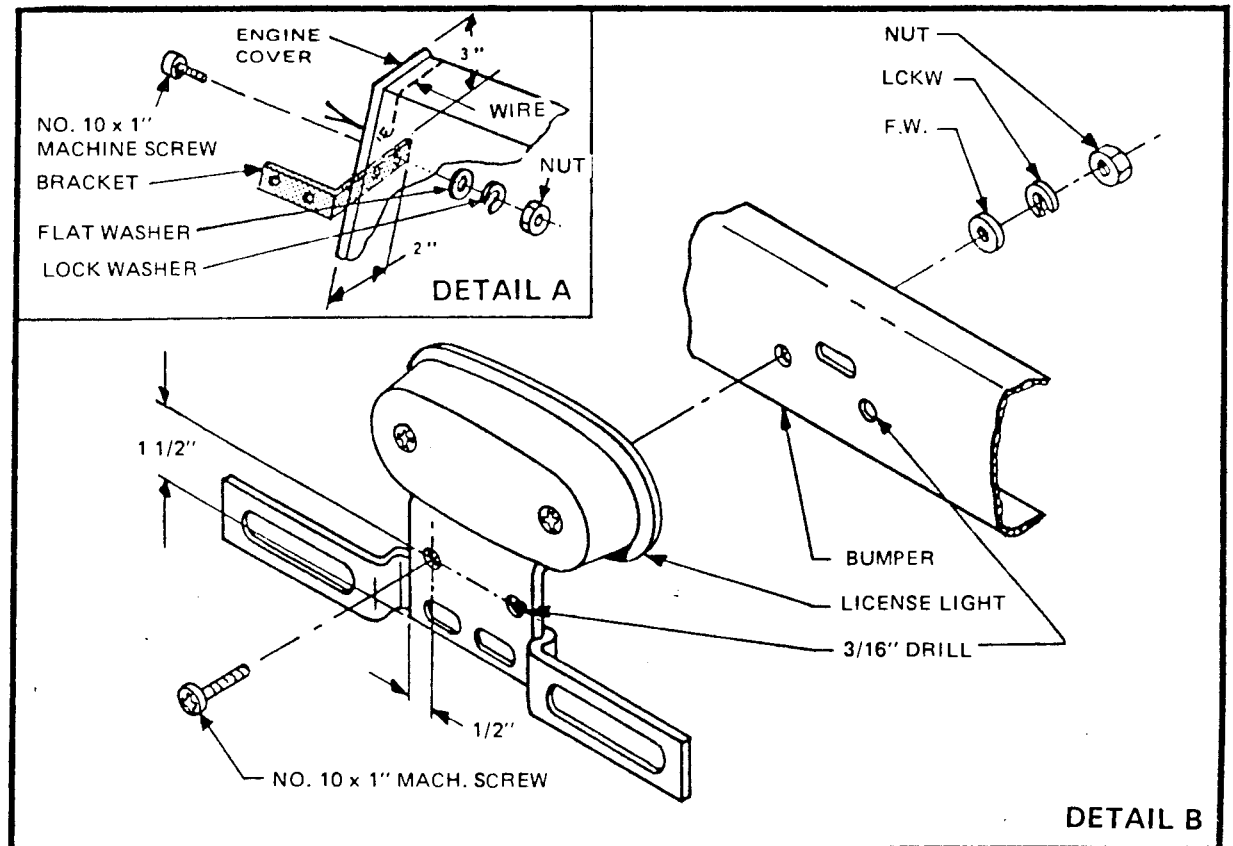

Figure 66
- The license light can be mounted in one of two places. On the engine cover with the bracket supplied or on the bumper. For engine cover mounting, bolt license light to bracket using No. 10 x 1" machine screws with flat washers, lock washer and nut. Line bracket up on left side of engine cover. Measure 3" down from top and 2 1/2" in from the edge. Keep license light parallel to rear of engine cover. Mark and drill 2 holes, 3/16", through holes in bracket. Secure to cover using No. 10 x 1" machine screws with flat washer, lock washer and nut. Run wires (hot and ground) up body and down into cover. (Figure 66)
- For bumper mounting, drill two 3/16" holes in license light as indicated. (Figure 66)